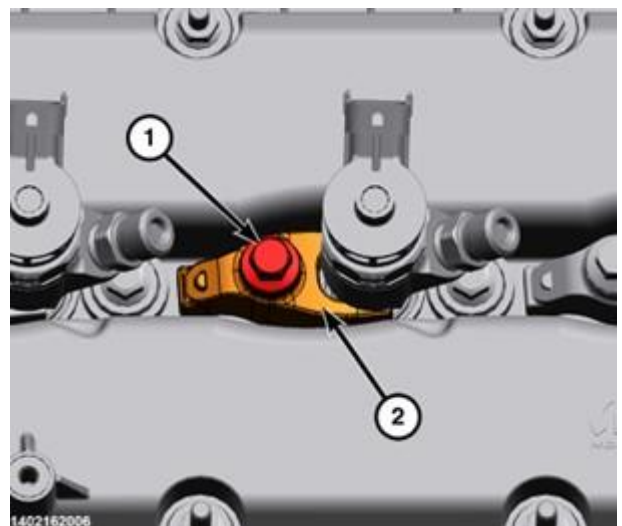

Figure 149– Fuel Injector Bolt and Clamp
95. Install the fuel injector clamp (2) and tighten the bolt (1) to 33 N·m (24 ft. lbs.). Repeat for all injectors (Figure 149).